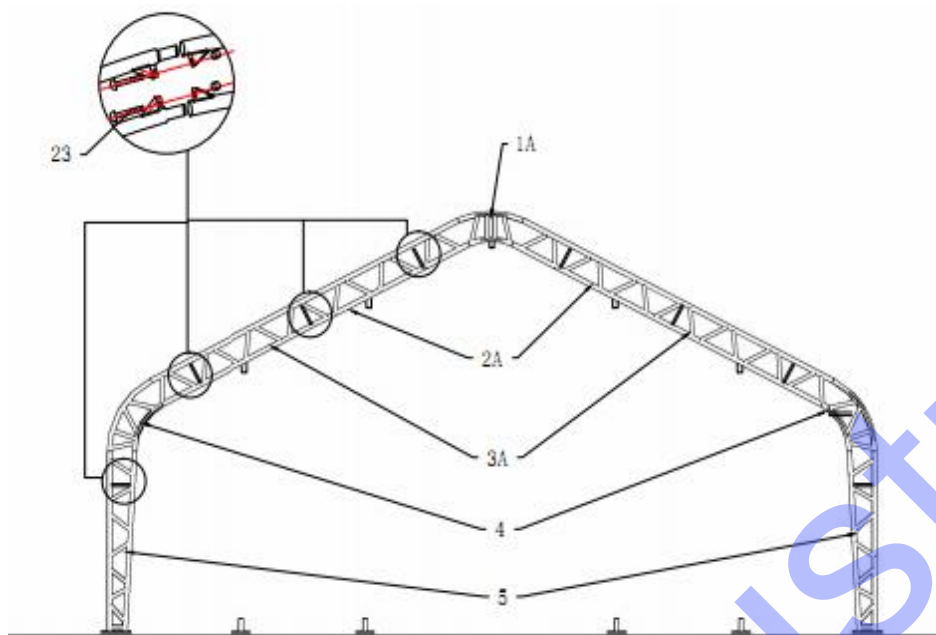

Figure 4
1. Figure 4 shows to connect the Top roof tube(No.1A),Roof curing tube(No.2A),Roof curving tube at shoulder for both doors (No.3A) , Sidewall tube (No.4) and Standing leg(No.5) with Bolt M12x30mm(No.23), then put the arch into tube of the Base flange by hoist.